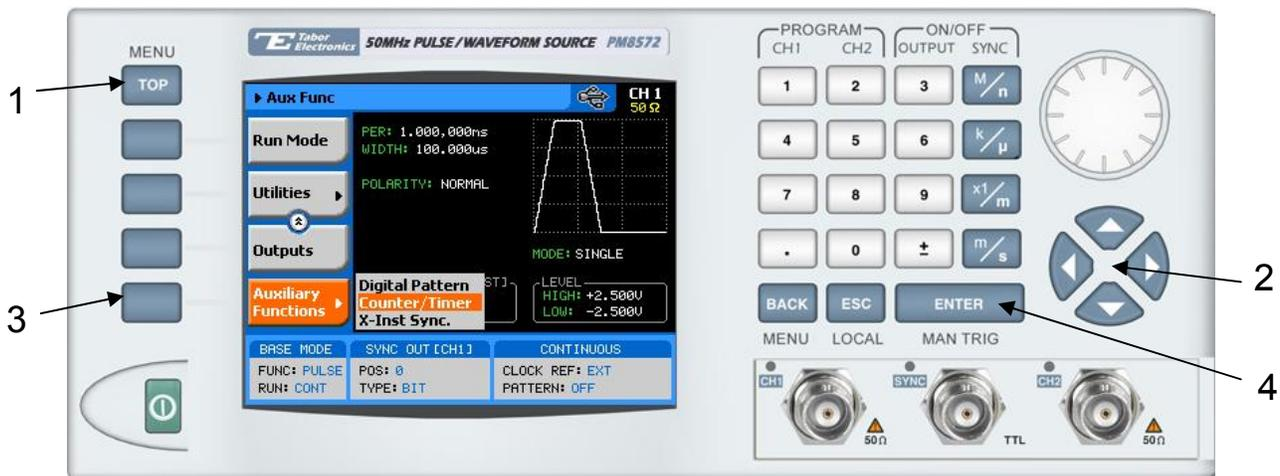

Figure 3-85, Accessing the Counter/Timer Menus
3. Press Auxiliary Functions soft key and notice that the Counter/Timer option is highlighted, as shown in Figure 3-85.
The digital counter/timer can measure one of the following functions: Frequency, Period, Period Averaged, Pulse Width and Totalize, either within a specified gate time or infinitely. Use Figure 3-85 and the instructions below to access and select one of the counter/timer measurement functions.